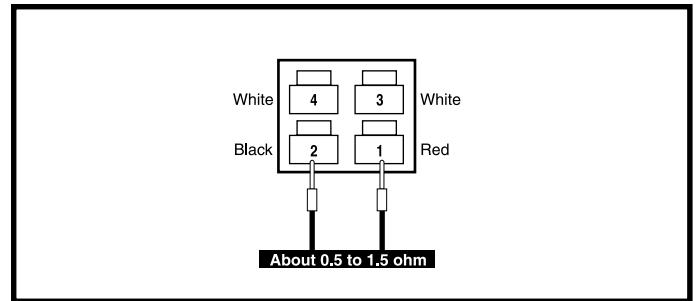

Figure 20. Connector 9a
2. Measure resistance across pin 1 (red) and pin 2 (black) on connector 9a. **See figure 20.**
- If your multimeter indicates about 0.5 - 1.5 ohms, then replace the VSI controller (1) and retest the system.